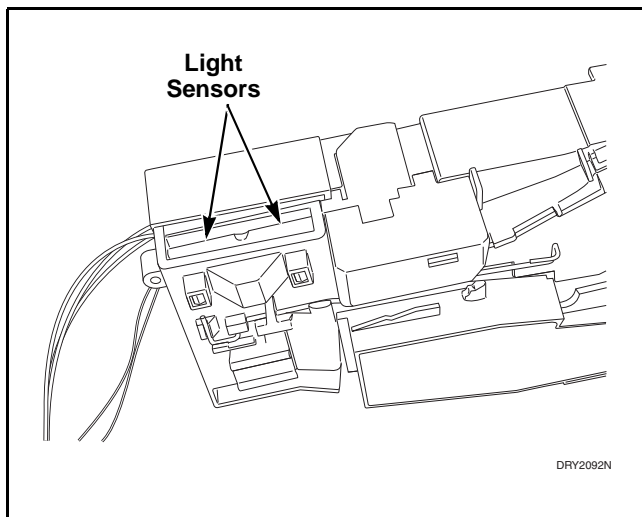

Figure 66
- g. Clean light sensors with a soft brush or air spray duster. Refer to *Figure 66*.